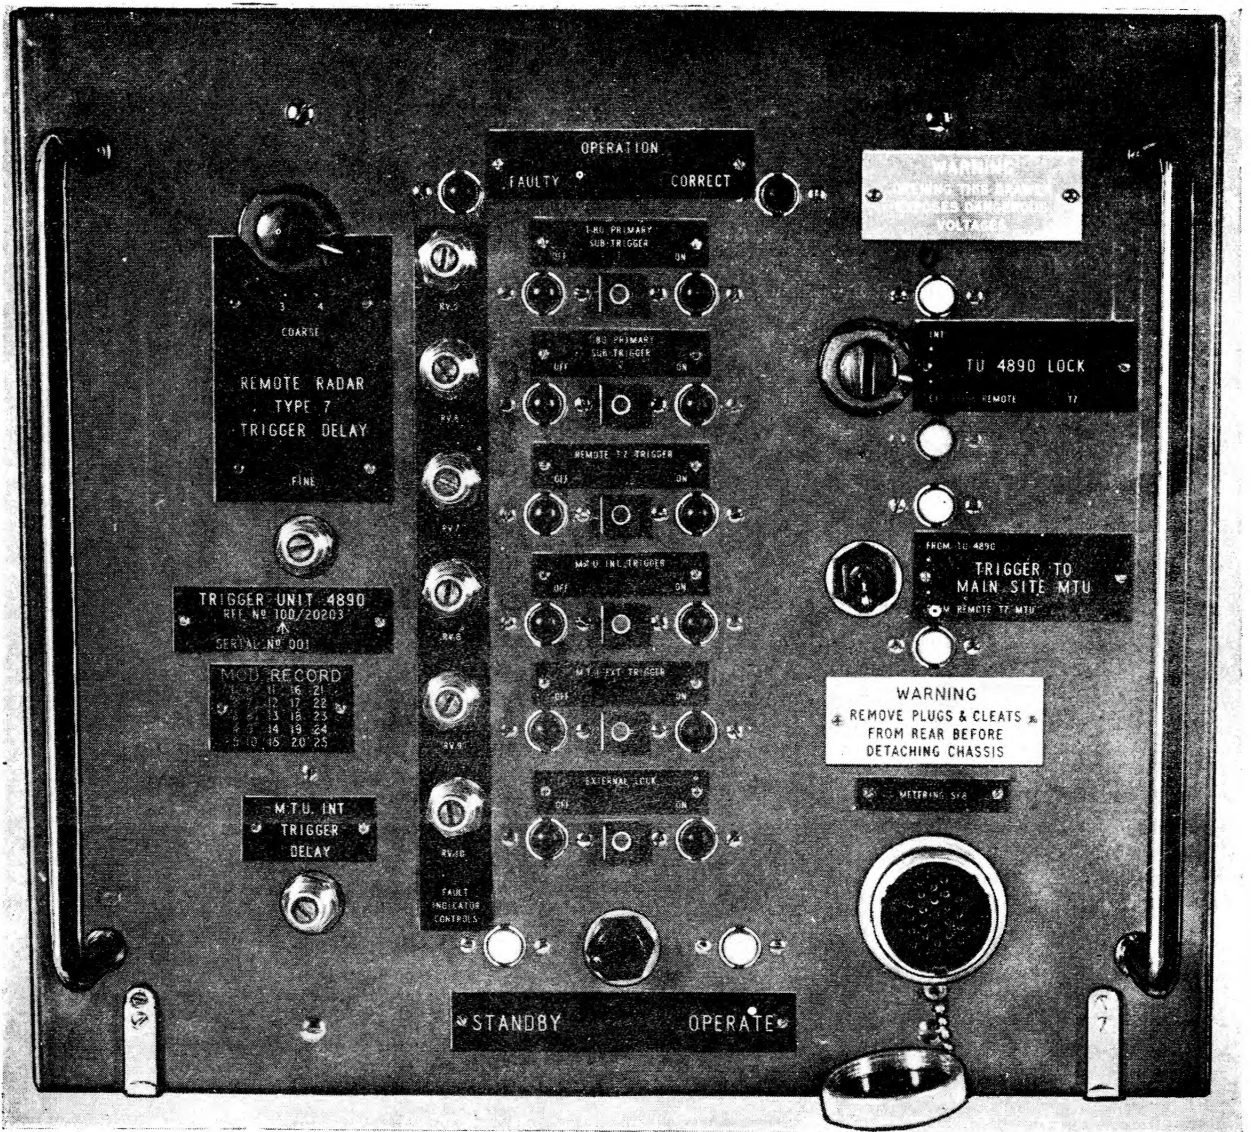
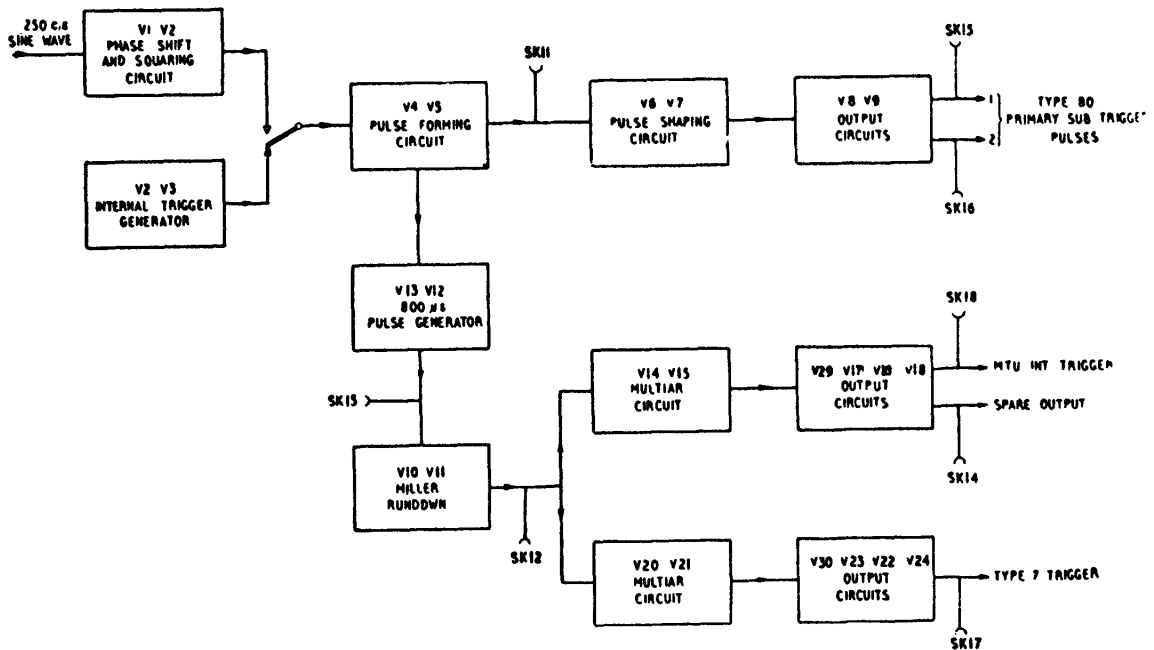
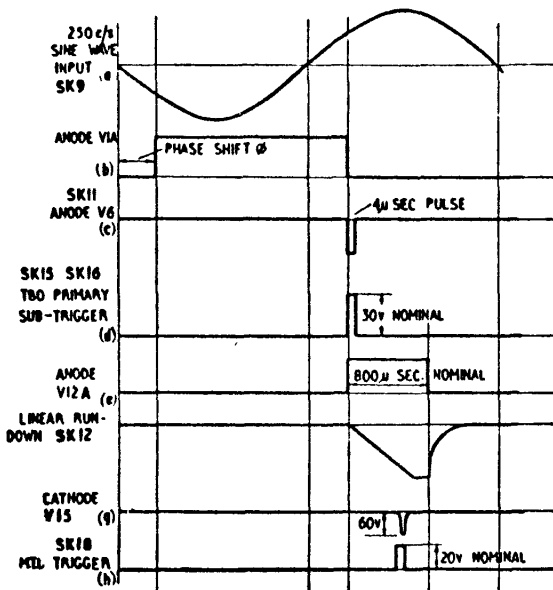

Fig. 1. Trigger unit 4890 : front panel
Fig. 4. Trigger unit 4890 : block diagram
Fig. 5. Trigger unit 4890: waveforms
1. Trigger unit 4890 (*fig. 1*) is used on GCI sites to trigger Radar Type 80. The unit has an open-centre construction with the valves mounted horizontally to facilitate cooling. It incorporates automatic change-over circuits to indicate the state of operation. Two units are located in a rack assembly in the radar office and are interconnected by junction box 6024.
14. In the block diagram of the TU4890 (fig. 4) V2 and V3 form a multivibrator at 250 c/s. This multivibrator is switched on when the unit is on internal trigger, selection of which is made by putting the TU4890 LOCK switch (fig. 1) to INT. In normal operation (LOCK switch to EXT. FROM REMOTE T7) the incoming 250 c/s sine wave is fed into a phase-shifting and squaring stage, V1, whose output edges are related to the zeros of the sine wave input (fig. 5). The start of the square wave can be varied from about 40 deg. to 100 deg. (fig. 5b).
contains fault detection circuits, each valve circuit (*fig. 16*) has an associated indicator lamp, a FAULT lamp, mounted on the front panel (*fig. 1*).